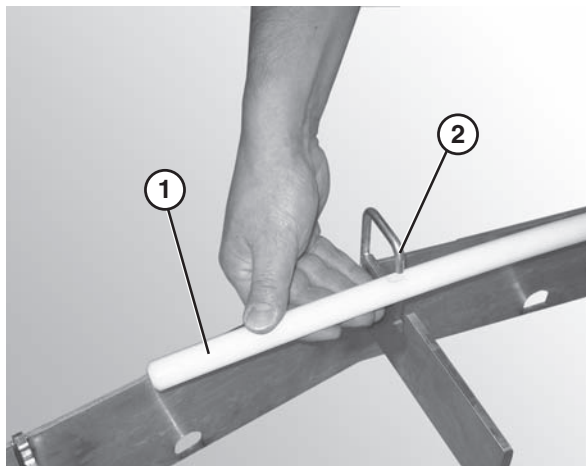

Figure 30
2. Attach the hold down wear strip (**Figure 30, item 1**) to the frame hooks (**Figure 30, item 2**) on the outside of the frame.